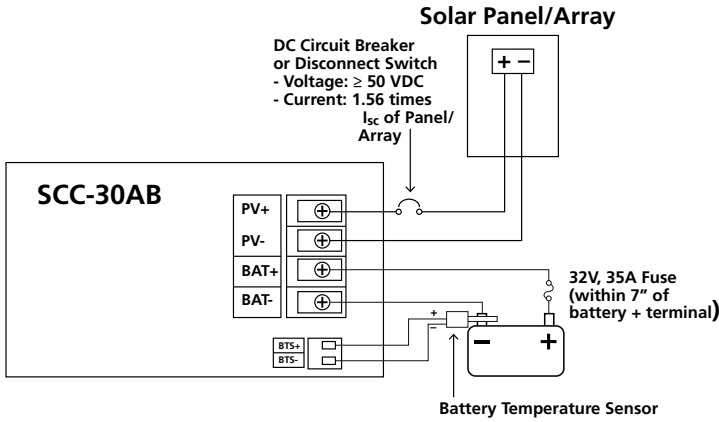

Fig. 6.2. Installation Diagram
- The connections to the SCC-30AB terminals are shown in the drawing at Fig. 6.2. A barrier type of Terminal Strip has been provided for connecting the PV array and the battery. M-4 screws with clamping washers are used to make the connection. A flat or a #2 Phillips head screw driver may be used to tighten these screws. Tighten each terminal clamping screw to 20 inch-pounds of torque. The distance between the barriers is 9 mm and a standard Spade Type of terminal lug meant for #8 Stud and AWG #10 – AWG #12 wire may be used at the end of the wires to be connected to these terminals. **4 such terminal lugs are provided with the unit for ease of installation.**
BTS consists of a temperature sensing probe that is installed on the (-) Negative battery post (Fig. 6.2). The temperature of the battery post reflects the approximate temperature of the electrolyte. A pair of 10 metres wires (marked + & -) connect the temperature sensing probe to the 2 terminals marked (+) BTS and (-) BTS at the back of the unit.